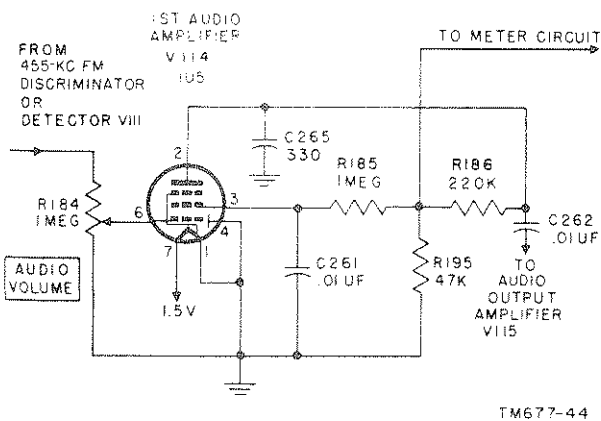

Figure 44. Radio Receiver R-395/PRD-1, functional diagram of first audio amplifier.
81. First Audio Amplifier (fig. 44)